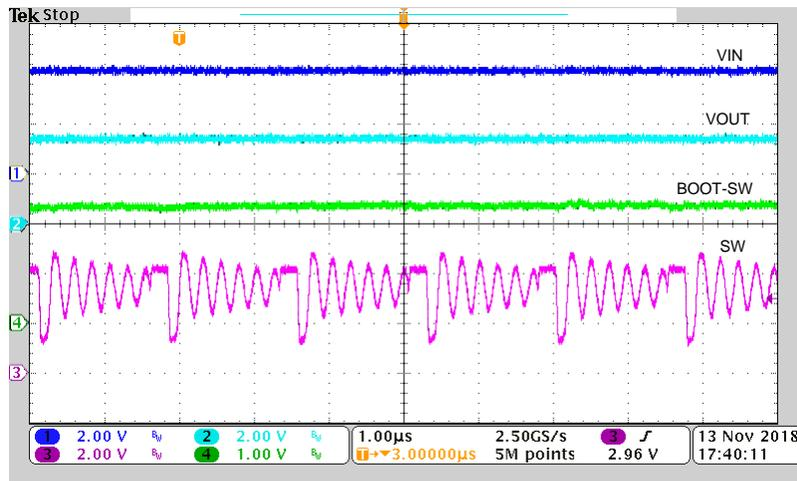
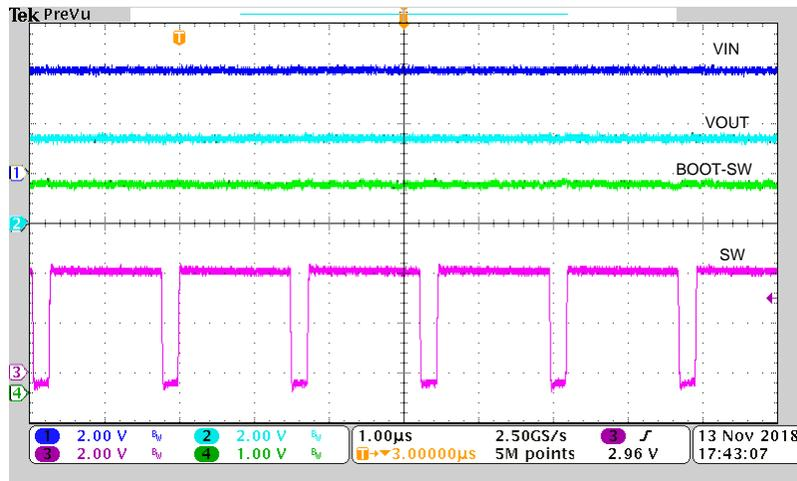
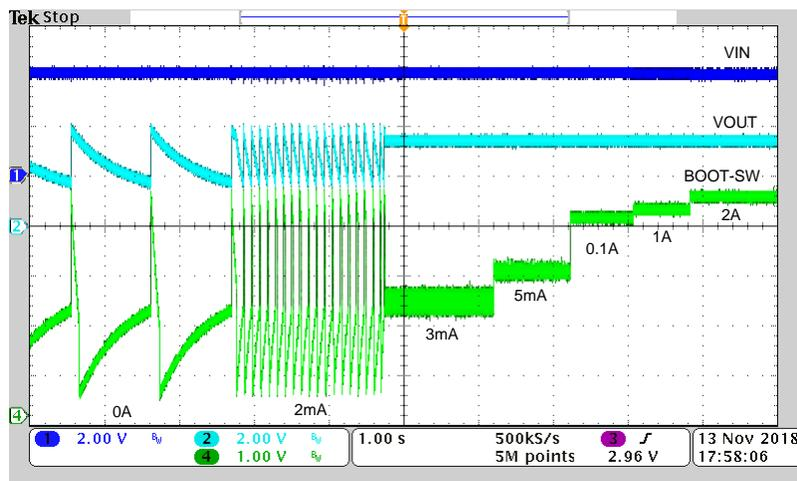

Figure 12. Bootstrap Capacitor Voltage Waveform with $V_{IN} = 4\text{ V}$, $I_{OUT} = 3\text{ mA}$
Figure 14. Bootstrap Capacitor Voltage Waveform with $V_{IN} = 4\text{ V}$, $I_{OUT} = 1\text{ A}$
Figure 15. Bootstrap Capacitor Voltage Waveform with $V_{IN} = 4\text{ V}$, Variation I_{OUT}
Figure 12 through Figure 15 show the bootstrap capacitor voltage of solution (1) under different load conditions. From Figure 14, the minimum load current is 3 mA to keep the bootstrap capacitor voltage higher than 2.1 V.